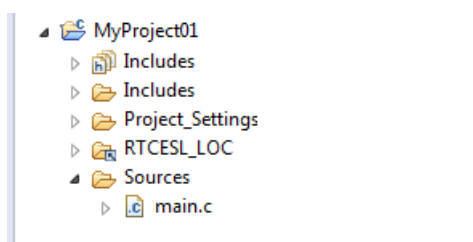

Figure 1-16. Projects libraries paths
- Click Finish, and you will see the library folder linked in the project. See Figure 1-16.